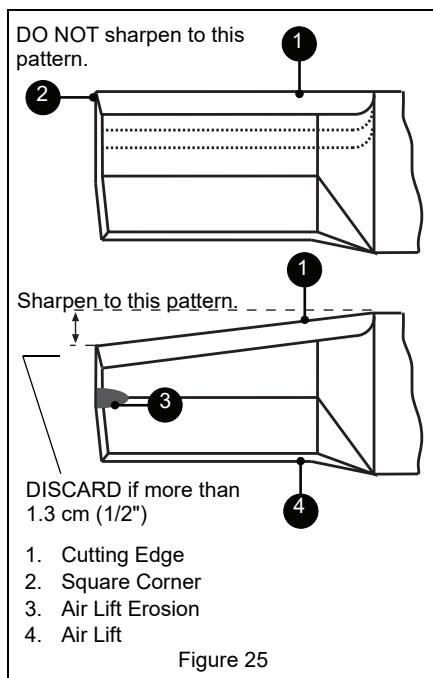

Figure 25
2. File or grind an equal amount of material from each cutting edge of the blade until sharp. DO NOT change angle of cutting edge or round the corner of the blade. See Figure 25.